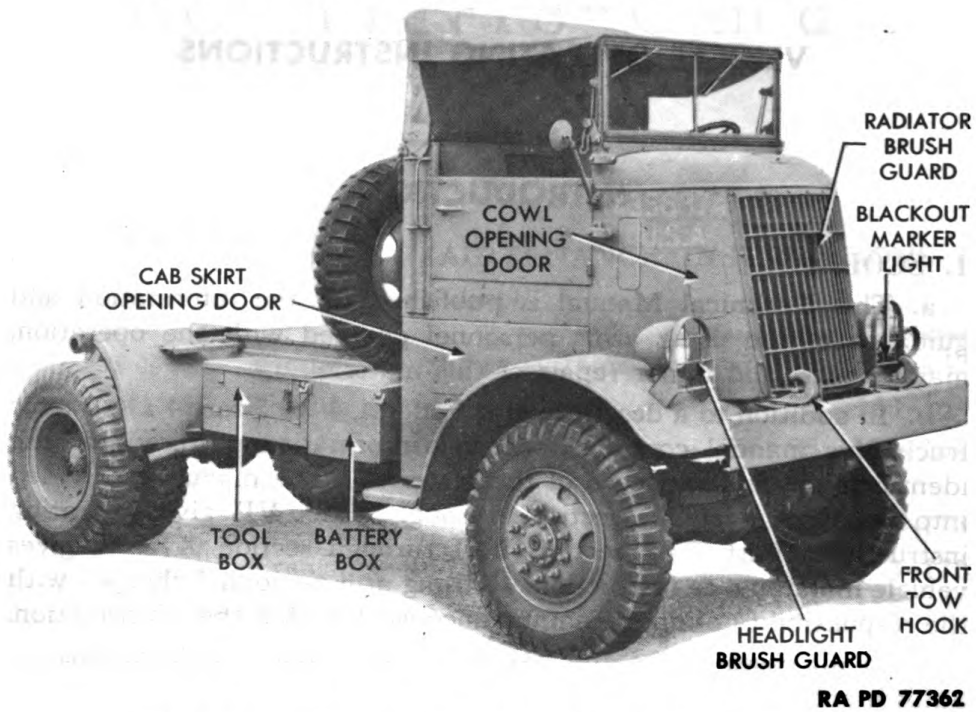
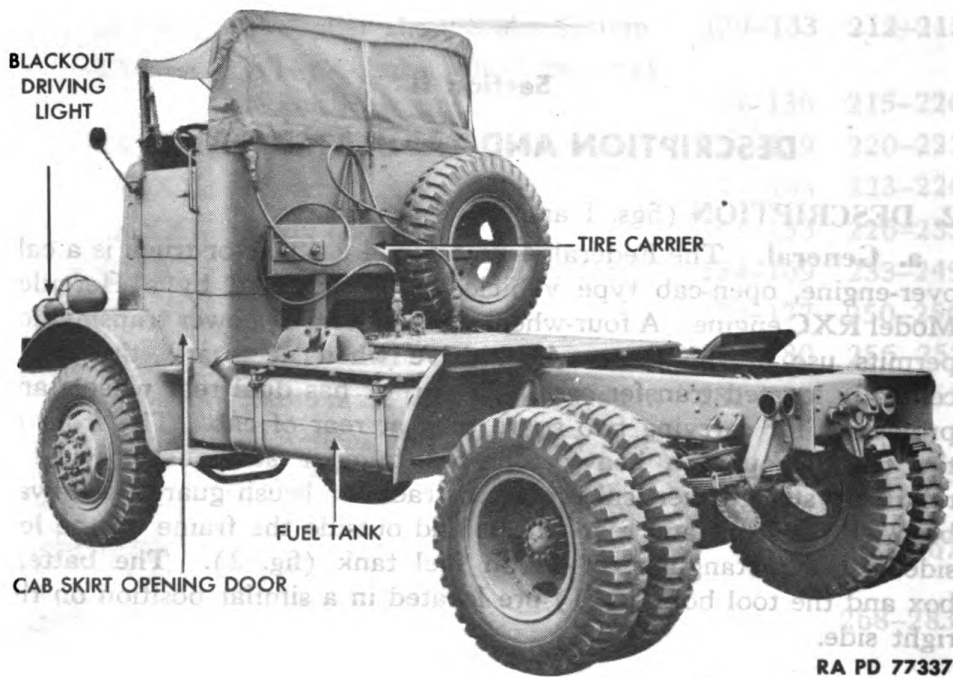

Figure 1 — Tractor Truck — Right Front View
Figure 2 — Tractor Truck — Left Rear View
2. DESCRIPTION (figs. 1 and 2).
a. **General.** The Federal, 4- to 5-ton, 4 x 4 tractor truck is a cab-over-engine, open-cab type vehicle. It is powered by a Hercules, Model RXC engine. A four-wheel drive system of power transmission permits use of the front wheel drive when necessary, through a centrally located transfer case. The truck has dual rear wheels and provisions for carrying two spare tires at rear of cab. The front of the truck mounts a heavy solid-bar bumper surmounted with a relatively straight vertical protective radiator brush guard. Midway between the front and rear wheels and outside the frame on the left side is the rectangular, 60-gallon fuel tank (fig. 2). The battery box and the tool box (fig. 1) are located in a similar position on the right side.